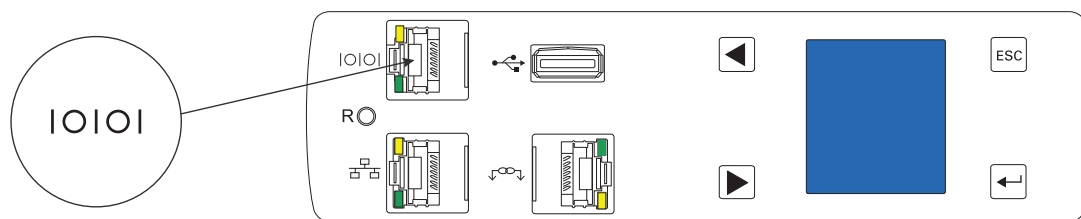

Figure 22. Connecting the EMP to the PDU RJ-45 Serial Port Connector
3. Locate the Ethernet cable dedicated to the EMP. Connect one end of the cable to the RJ-45 connector on the EMP, then connect the other end of the cable to the serial connector on the PDU (see Figure 22).